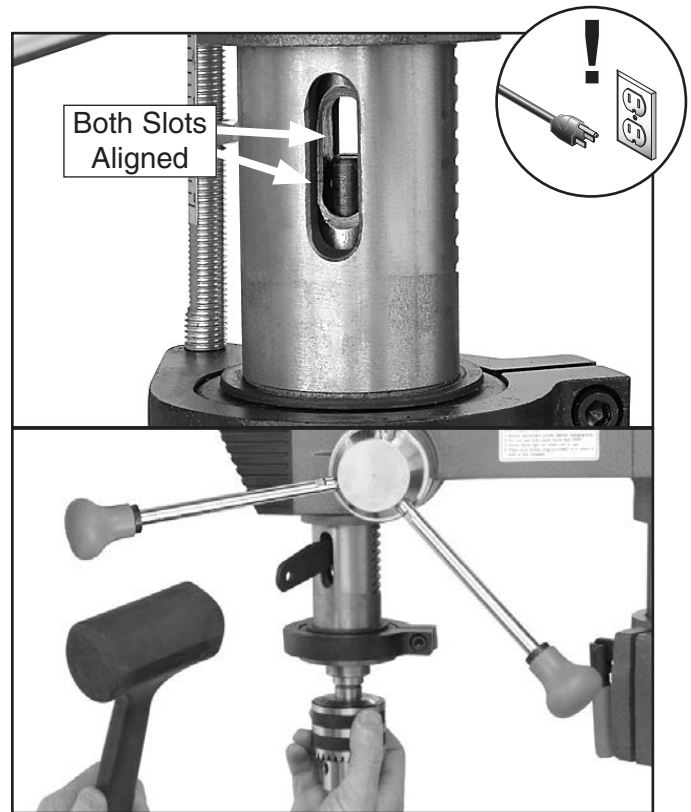

Figure 18. Using drift key to remove arbor.
- Rotate the spindle until the inner drift key slot is aligned with the outer slot, as shown in **Figure 18**. You will see through the spindle when the slot is properly aligned.
- Hold the drill chuck with one hand and tap on the drift key with a rubber or wooden mallet (**Figure 18**) until the arbor releases.